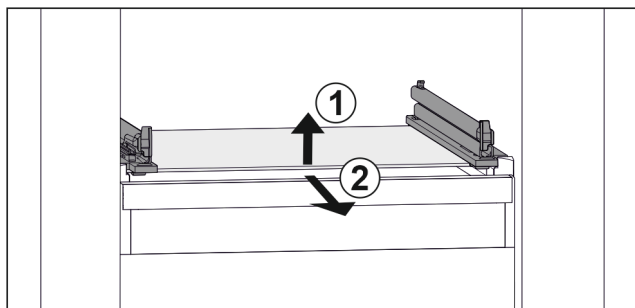

Fig. 123 Example illustration of glass shelf
- Lift glass shelf at the front. Fig. 123 (1)
- Take out glass shelf to the front. Fig. 123 (2)